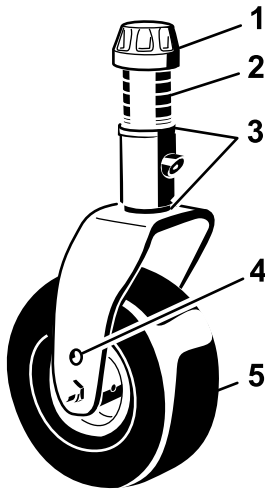

Figure 30
3. Adjust the shims (3 mm or 1/8 inch) on the front caster fork(s) to match the height-of-cut decal (Figure 30); refer to Adjusting the Height of Cut (page 27).